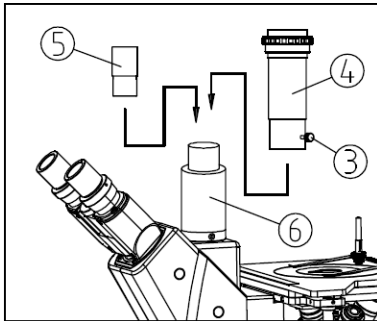

Fig.24
- (2) Mount the photo device as the direction indicated into tri-tube, then lock on screw ①.
- (3) Loose the lock-screw ③ on photo adapter and take off photo tube ④. (Fig. 24)
- (4) Insert 3.2X photo eyepiece ⑤ into tube ⑥. Then mount photo tube ④ and lock on screw ③.
- (5) Adjust the image clear through binocular then use camera as its manual.